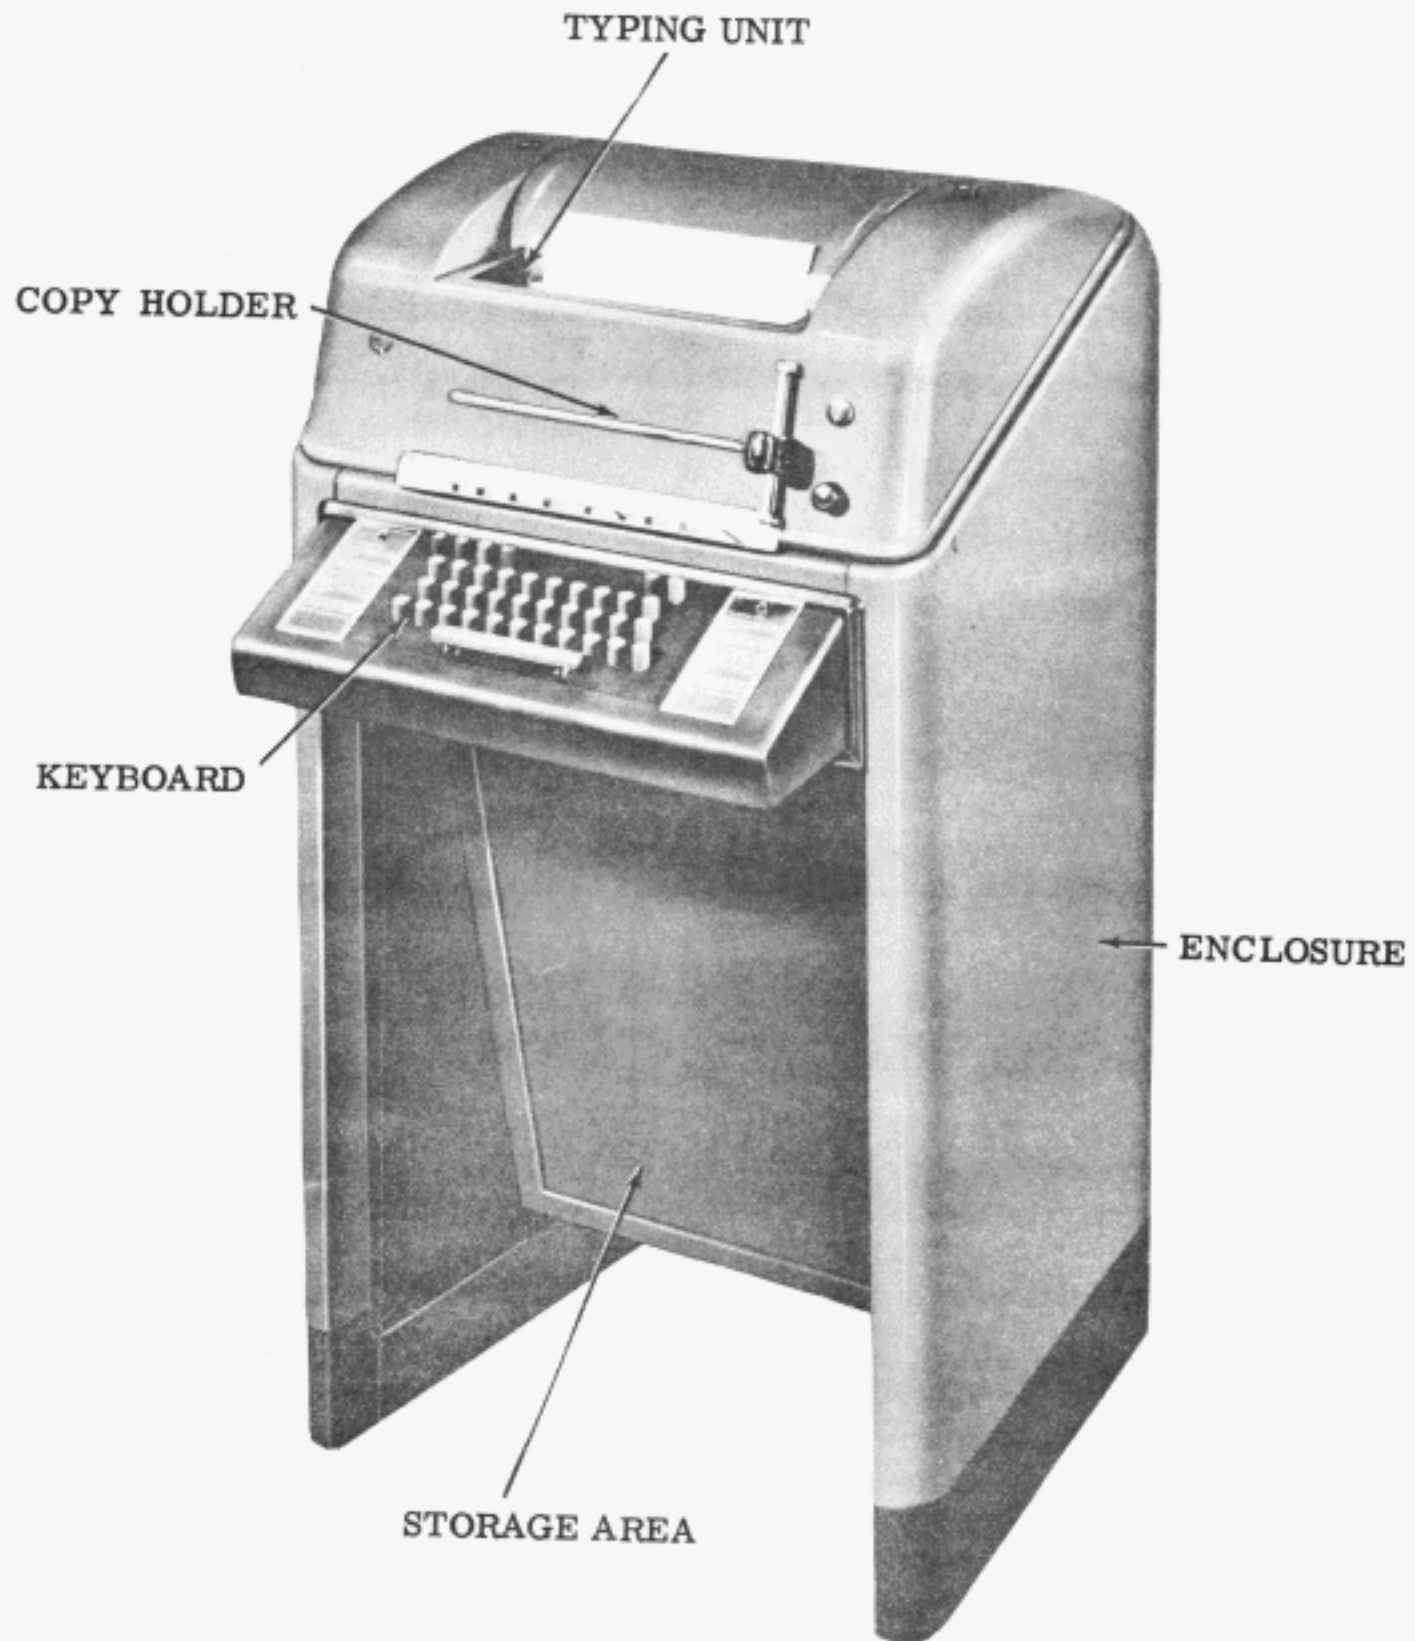

Figure 1 - Floor Model Keyboard Send-Receive (KSR) Teletypewriter Set
- (a) Floor Model Set - A floor-standing set with additional space for accessory equipment (Fig. 1).
ENCLOSURES (Figs. 1 through 5)